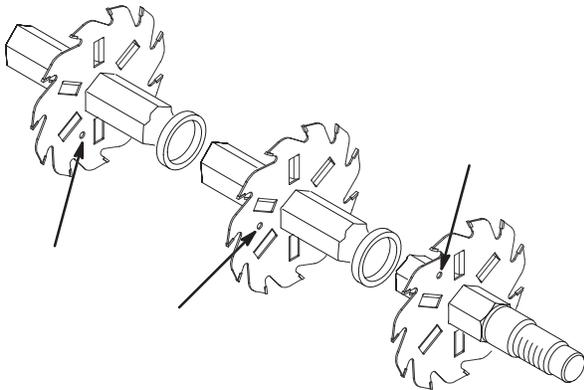

Figure 14
4. Install the next blade counter-clockwise so the index reference hole is not aligned with the first blade hole by one hex of the shaft (Fig. 14). Continue to install spacers and blades in this manner until the full complement of blades have been installed. When properly assembled, the blades will be centered on the shaft and staggered in such a manner to give a helix appearance.